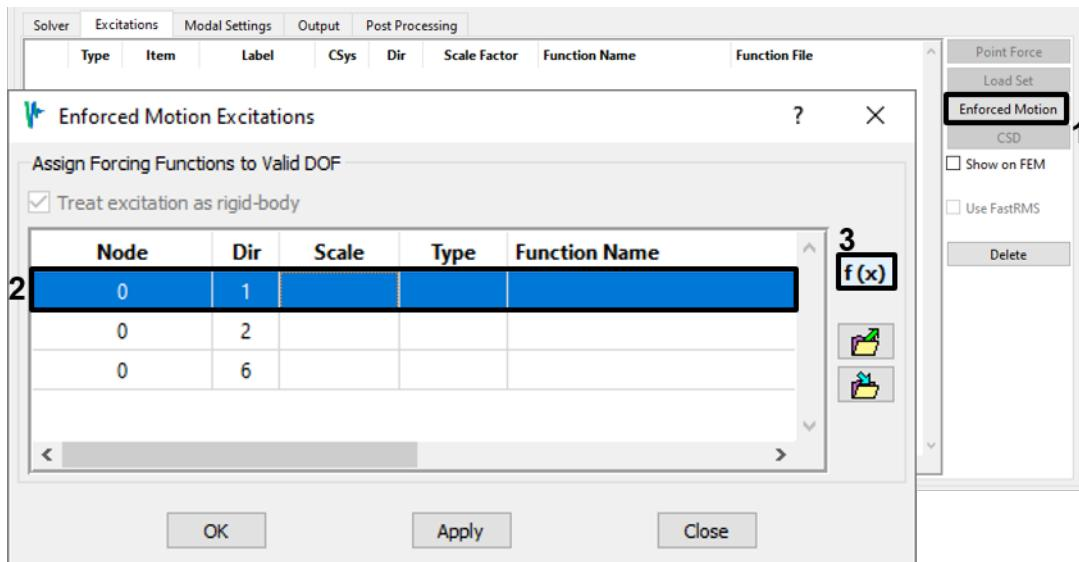

Figure 4-78. Assign an enforced motion function to direction 1.
4. Response spectra are applied as enforced motions, so go to the *Excitations* tab and bring up the *Enforced Motion Excitations* dialog (Figure 4-78). Note that no motion out of the XY plane is offered; those degrees of freedom were removed from the model, so no modes have any effective mass in those directions. Select the X direction (direction 1) and click the **f(x)** button to bring up the Function Manager.